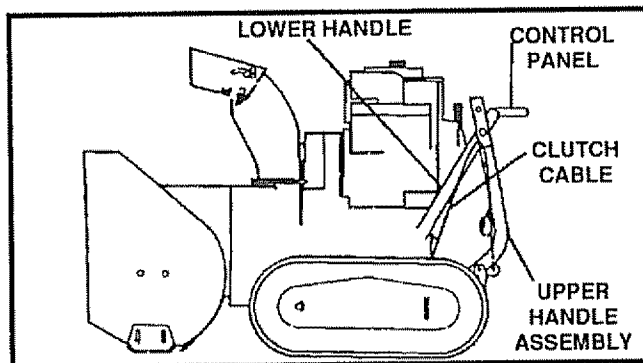
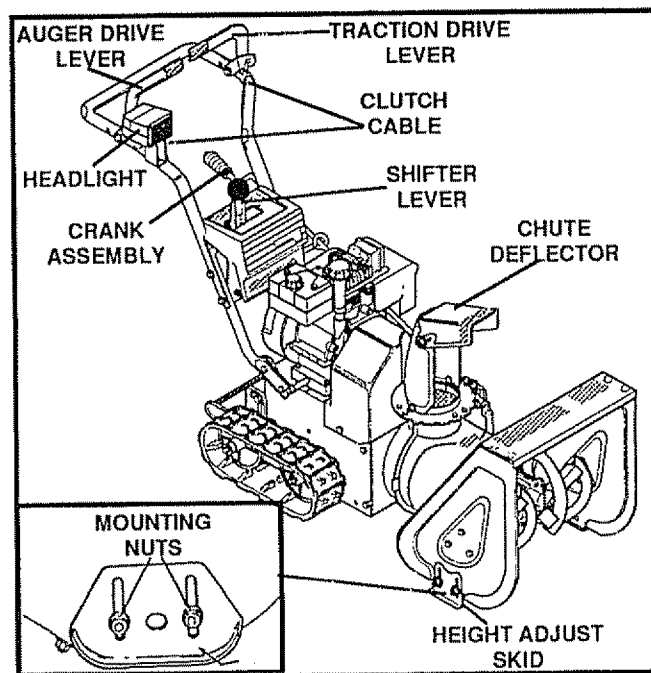

FIG. 1
FIG. 2
Figure 1 shows the snow thrower in the shipping position. Figure 2 shows the snow thrower completely assembled. Reference to the right and left hand side of the snow thrower is from the operator's position at the handle.
TO REMOVE SNOW THROWER FROM CARTON (See Fig. 1)
- Swing the upper handle into the operating position as shown in Fig. 2.
Your snow thrower is equipped with height adjust skids (See Fig. 2) on the outside of the auger housing. To adjust the skid height, see To Adjust Skid Height paragraph on page 18.